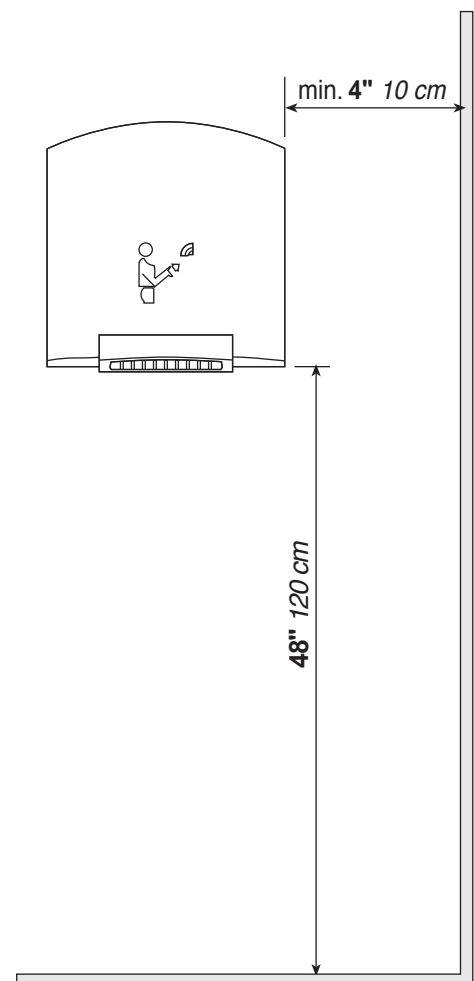

FIG. 1
3. Install unit so that the bottom is approximately 48" above floor. Unit should be at least 4" from a perpendicular wall. (FIG. 1, previous page)
3. Install unit so that the bottom is approximately 48" above floor. Unit should be at least 4" from a perpendicular wall (FIG. 1, on page 2)